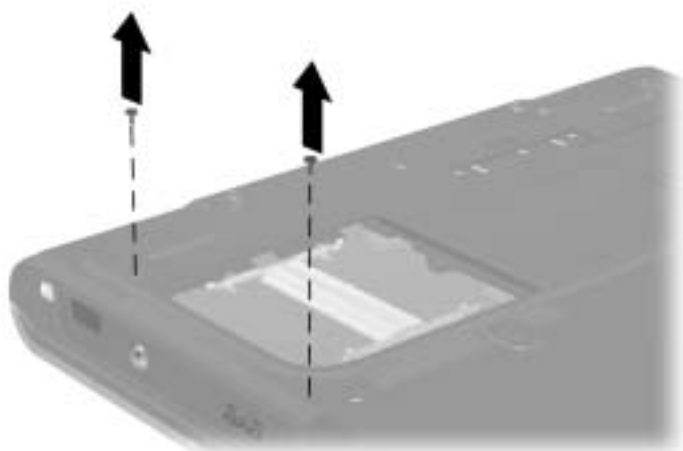

Figure 5-4. Removing the Optical Drive Screws
- b. Remove the two TM2.5 × 5.0 screws that secure the optical drive to the base enclosure (Figure 5-4).